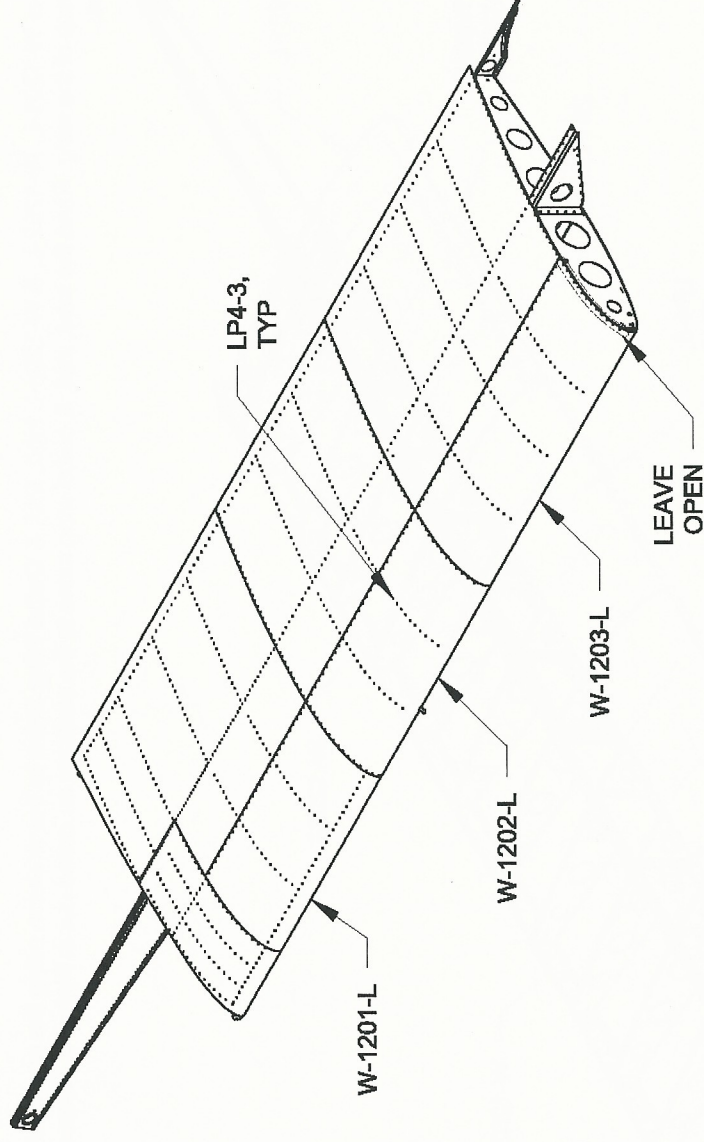

FIGURE 3: RIVETING MID AND OUTBOARD WING SKINS
Step 4: Cleco the remaining portion of the W-1203-L Outbd Wing Skin and W-1202-L Mid Wing Skin to the wing. Rivet the outbd and mid wing skins to the wing leaving open holes as shown in Figure 3.